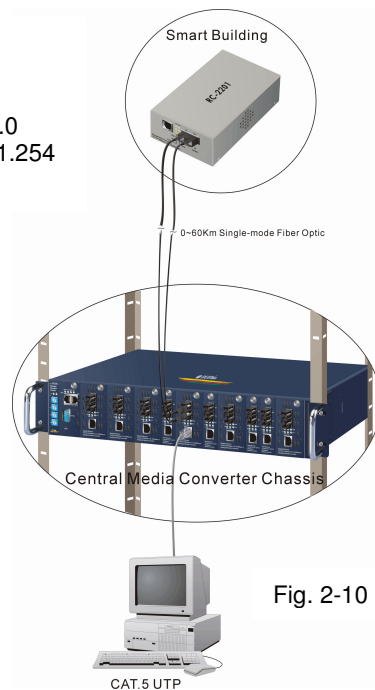

Fig. 2-10
- Assign a reasonable public or private IP address in accordance with each network site. Please refer to Fig. 2-10 about the Managed Media converter default IP address information.